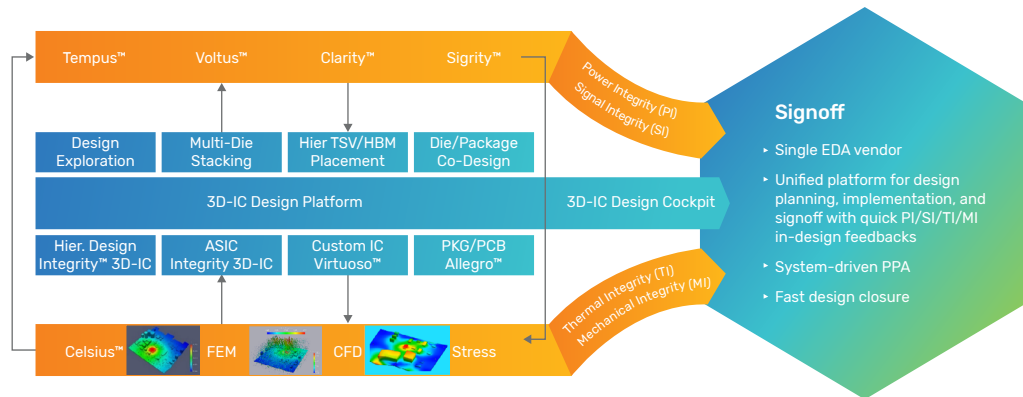

Figure 9: Cadence's unified platform for design planning, implementation, and signoff
Cadence uniquely meets this need with its complete 3D-IC design and analysis solution from a single EDA vendor. The unified platform for design planning, implementation, and signoff provides quick power integrity (PI), signal integrity (SI), thermal integrity (TI), and mechanical integrity (MI) in-design feedback, system-driven power, performance, and area (PPA), and fast design closure (Figure 9).